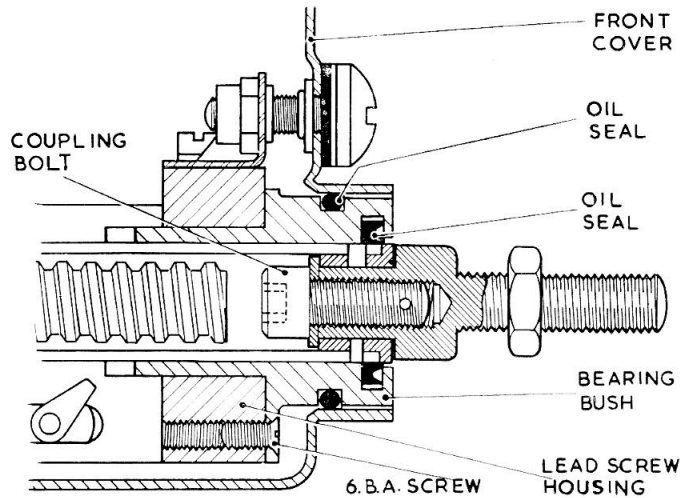

Fig. 3. Details of plunger
5. The plunger bearing bush, which is shown in fig. 3, is lengthened to provide a greater bearing area for the plunger. The bearing protrudes beyond the housing into a collar in the front cover, and is grooved internally and externally to accommodate two sealing rings which exclude dust and oil from the interior of the actuator.